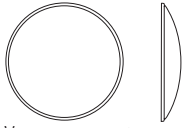

**Figure 1**
4. Line up the flat sides of the lamp base with the brackets on either side of the socket (**Figure 1**).